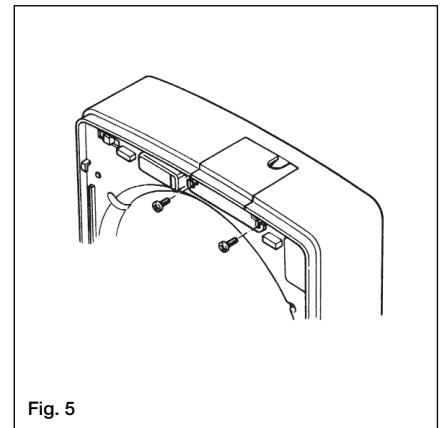

Fig. 5
- Remove the fan Connector Plate carefully by unscrewing the two screws (Fig. 5).